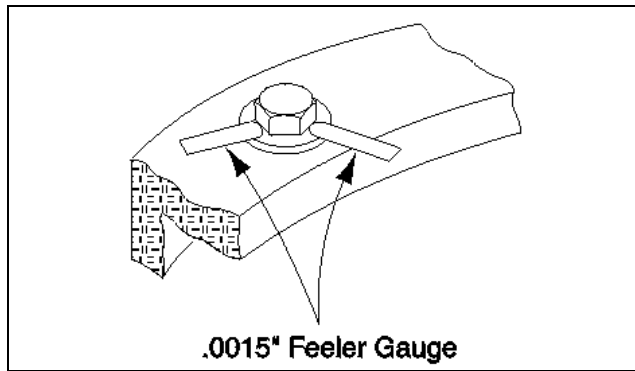

Figure 3-62. Swing Bolt Feeler Gauge Check
- b. At the positions indicated on Figure 3-62., try to insert the 0.0015 in. feeler gauge between the bolt and hardened washer at the arrow indicated position.
- b. At the position indicated on Figure 3-62., try to insert the 0.0015 in. feeler gauge between the bolt head and hardened washer at the arrow indicated position.
- d. At the position indicated on Figure 3-62., try and insert the 0.0015 in. feeler gauge between the bolt head and hardened washer at the arrow indicated position.